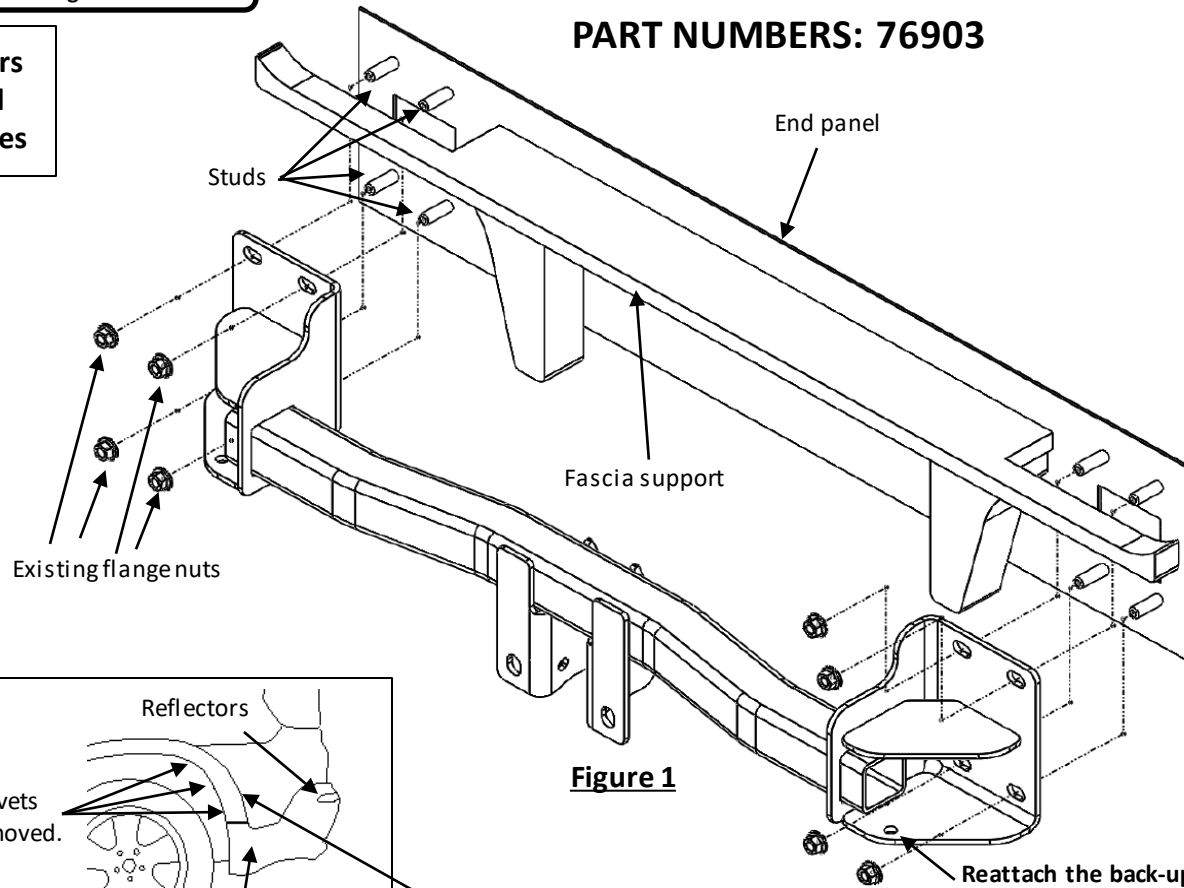
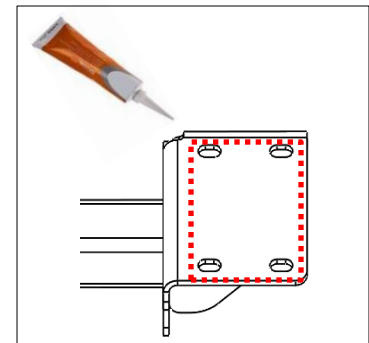

Figure 1
Figure 5
5. Use silicone sealant to seal around the opening on the end panel both sides, see **Figure 5**. Raise the hitch into position and loosely install (8) existing flange nuts, see **Figure 1**.